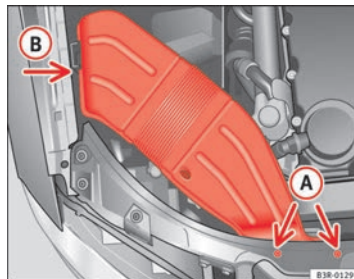

Fig. 204 Air duct on right side of vehicle
- Unscrew bolts **(A)** ⇒ page 265, fig. 204.